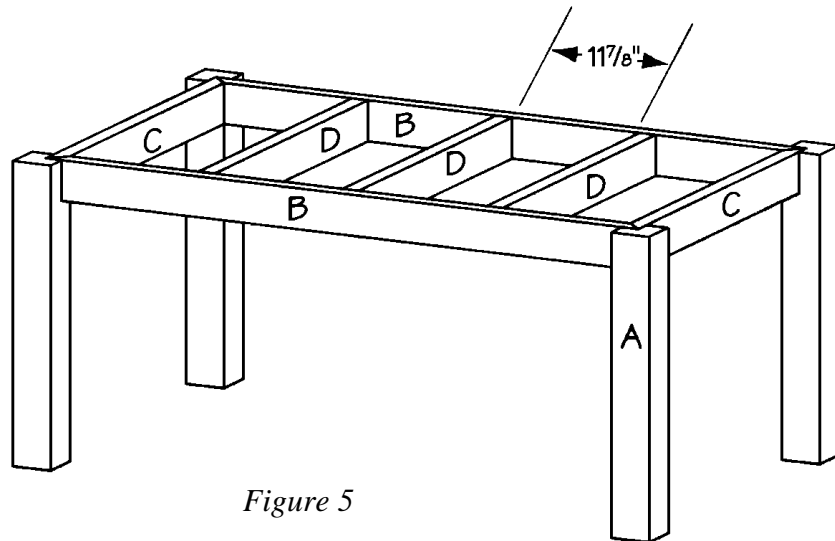

Figure 5
1. Cut three center supports (D) from 2 x 4 pine, each measuring 28 inches long.
2. Fit the 3 center supports (D) between the two long sides (B), edge up, approximately 11-7/8 inches apart, as shown in *Figure 5*. Apply glue to the meeting surfaces and screw through the long sides (B) into the ends of the inner supports (D). Use two 2-1/2-inch-long screws on each joint.
3. Cut eight short inner supports (E) from 1 x 2 pine, each measuring 11-7/8 inches long.